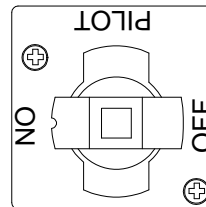

Figure 2
3. With the pilot lit, push down and slowly turn the knob to the ON position (Figure 2).